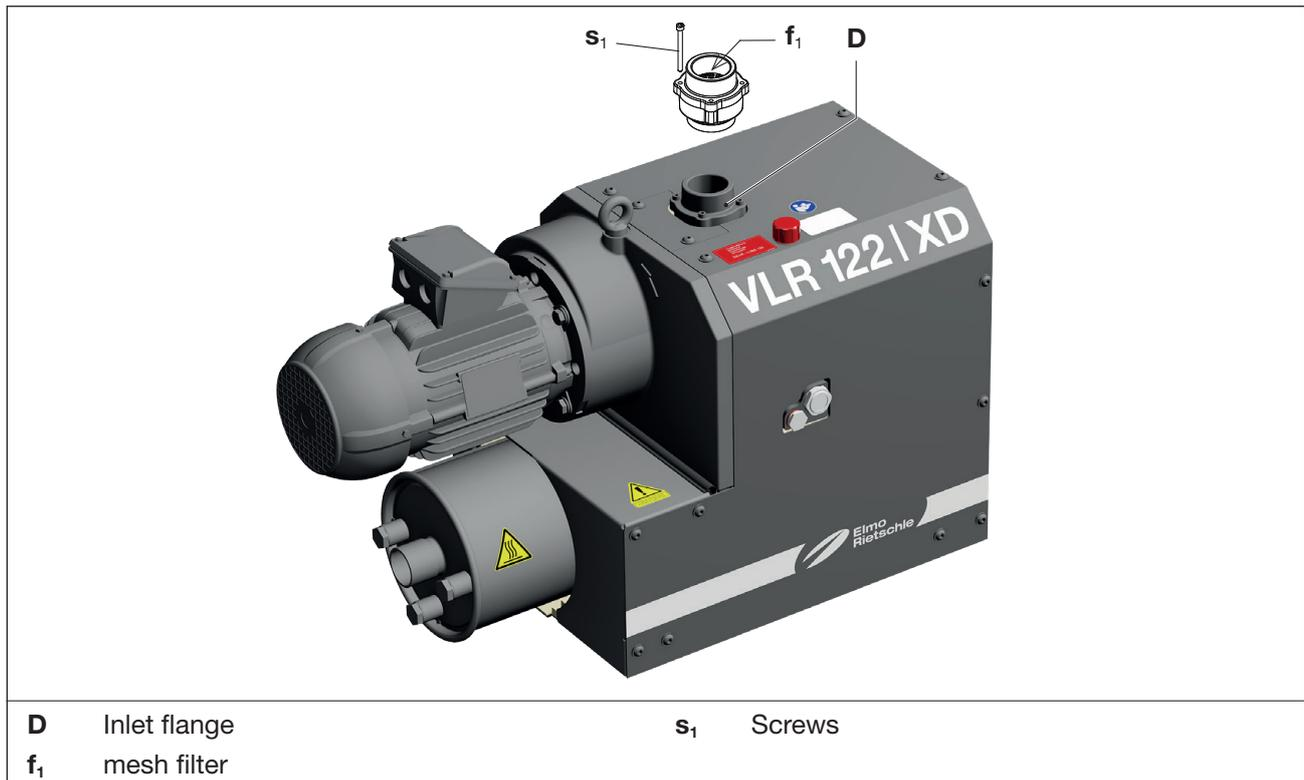

Fig. 9 Mesh filter
- Take off the inlet flange (Fig. 9/D) after releasing the screws (Fig. 9/s1).
- Clean the mesh filter (Fig. 9/f1). Also check the valve seat for contamination.
- Remount the inlet flange (Fig. 9/D) and retighten the screws.